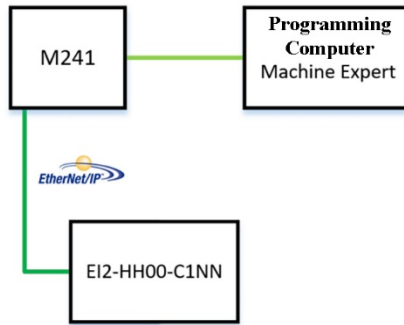

Fig.5-7-8 Communication Link Diagram
1. See Fig. 5-7-8 for the communication link diagram.